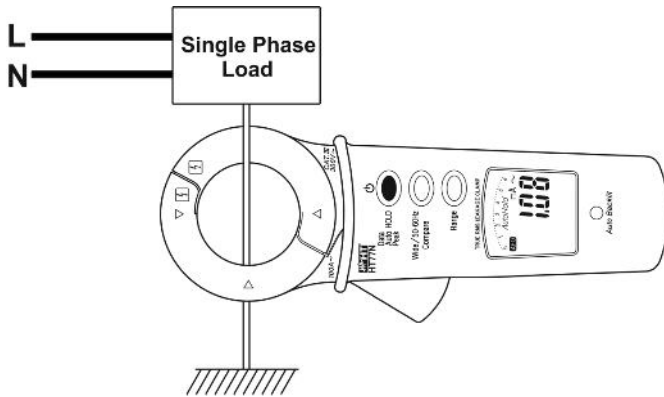
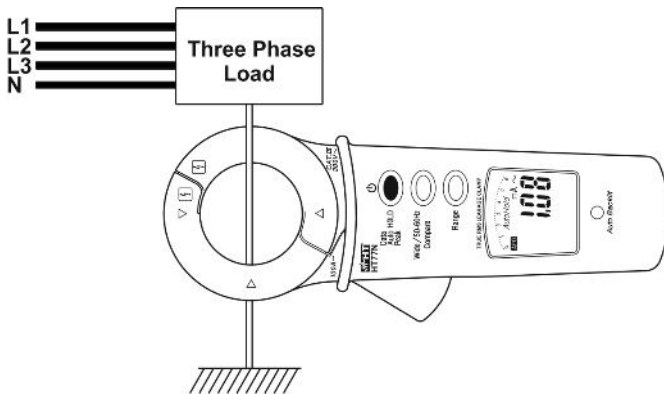

Fig. 4: Measuring leakage current with direct method in a single phase load
Fig. 6: Measuring leakage current with direct method in a three phase load
3. Open the clamp jaw and connect the clamp as shown in Fig. 4 or Fig. 6. The leakage current value will be shown on the display